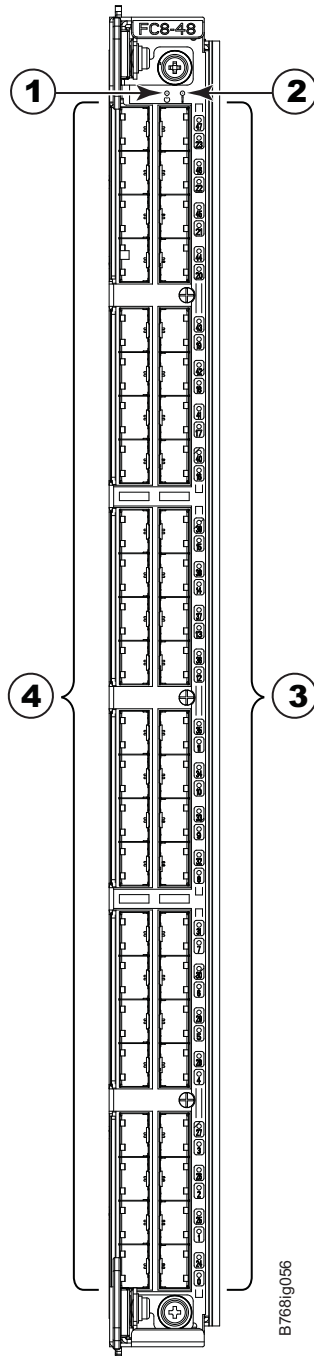

Figure 55. FC8-48 port blade
- Figure 55 on page 156 shows an FC8-48 port blade